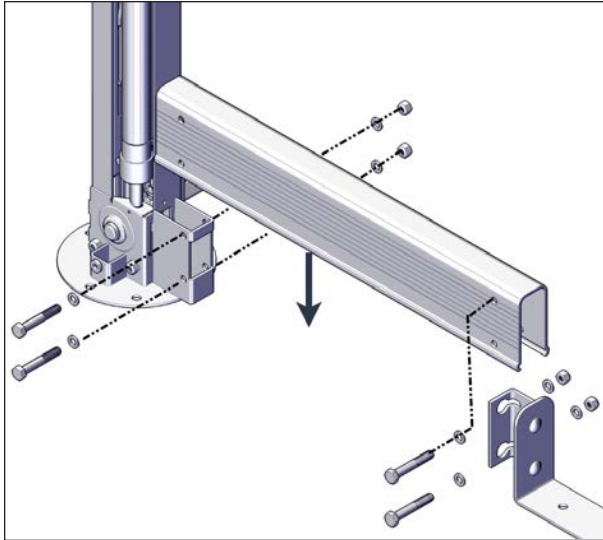

FIGURE 43: SHORT U-SHAPE INSTALLATION
14. Fasten a short U-frame to each end of the spa entrance U-frame link and then install the entire assembly between the front posts. Use four hexagonal 5/16"-18 x 2" bolts, four 5/16"-18 nylon- insert lock nuts and eight 5/16" washers (4 by side). Use 1/2" (13 mm) socket wrench and spanner see Figure 43.